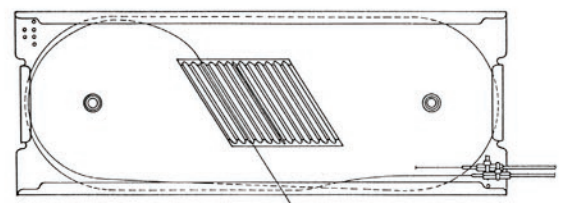

FIGURE 8
8.04 Select the fibers from one direction of transmission and route them around the tray (under the retainer lips) until the fibers have made one-and-a-half loops in the tray, Figure 8.